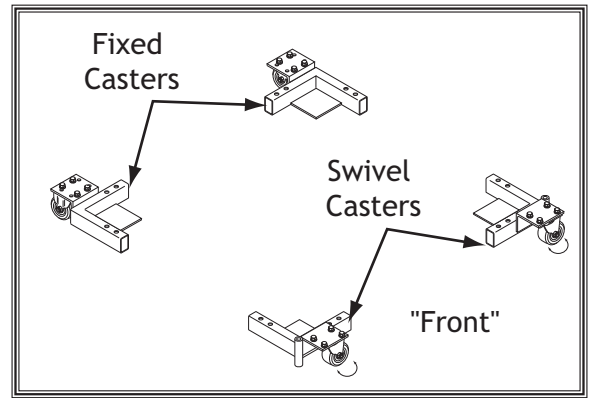

Figure 12. Corner brackets with casters laid out on floor.
- Position the swivel casters on the "front" or side from which the machine will typically be pushed (see Figure 12).